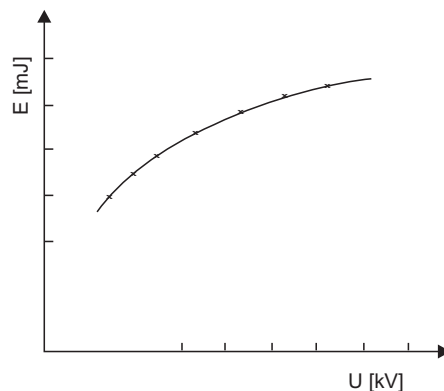

Figure 8: Pulse energy as a function of charging voltage
If the pulse energy (E) is considered as a function of the charging voltage (U), the result is approximately the function shown in Figure 8.